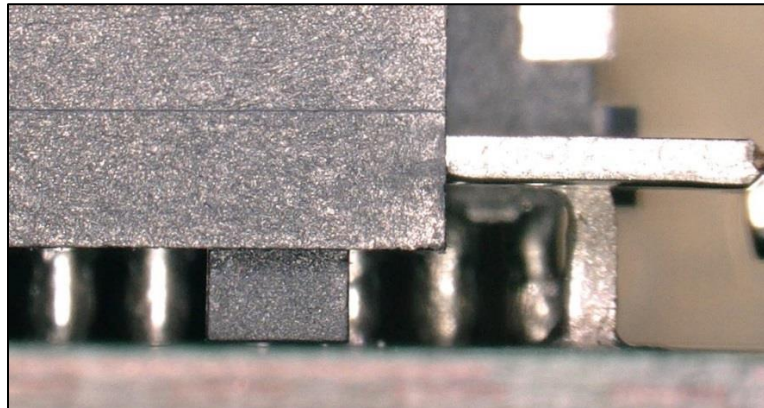

Fig. 5. The insulator housing of a reflowed SEAF8-RA connector will rest on the board surface or slightly above.
- As the solder charges reflow, the weight of the connector causes it to settle so that the body rests on or just slightly above the board after processing. This phenomenon is why the upper coplanarity specification of .006" (.15mm) is acceptable for the SEAF8-RA connector family (see Fig. 5 below).